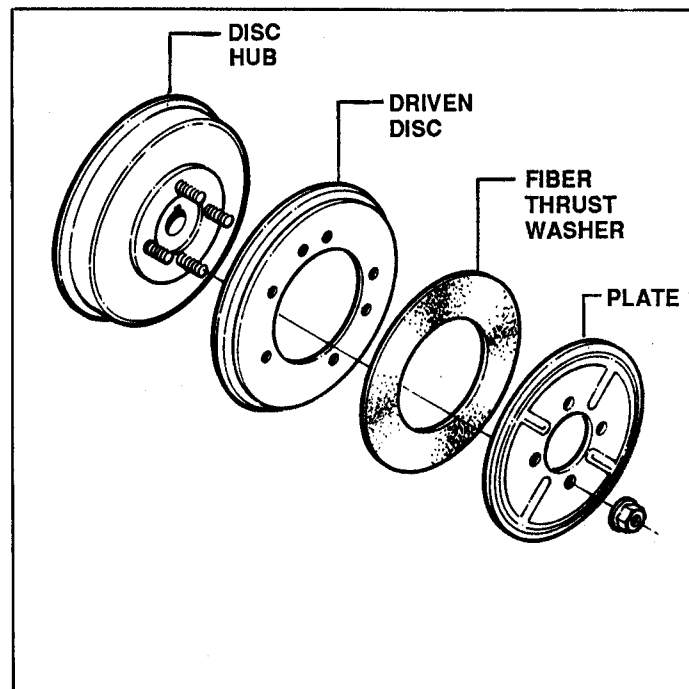

FIGURE 4.11
- B. When installing new driven disc on SMOOTH CLUTCH, make certain that fiber washer is centered over boss on center of driven disc hub. See Figure 4.11.